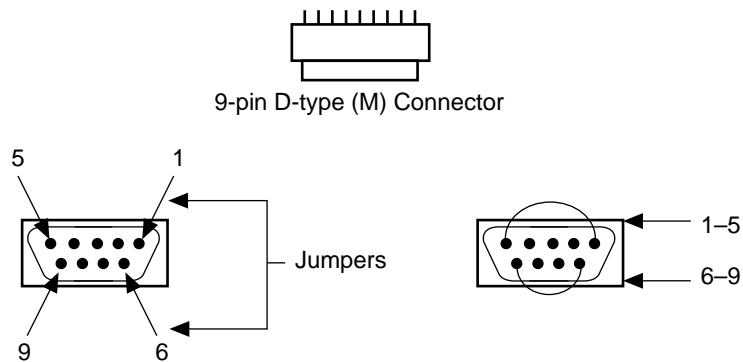

FIGURE 5-1. D-type (M) Loopback Connector for AI-E1 Diagnostics
- For AI-E1 tests, the loopback connector is a piece of micro-coaxial cable (75 ohm [Ω]) with micro-coaxial BNC-type connectors; or see the illustration of the loopback connector using D-type connectors (Fig. 5-1).